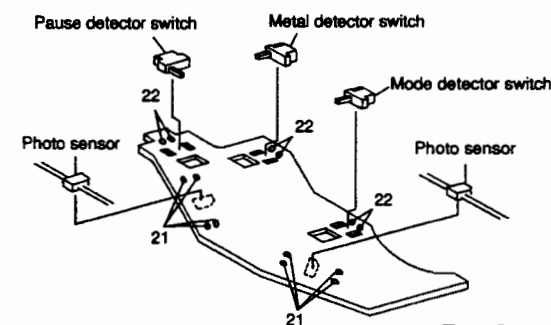

Figure 5
② 口開き、めくれのない様に注意して下さい。
③ プラネットギアの挿入忘れ、不足のないこと。
- (1) Remove eight solders 21 as shown in Figure 5.
- (2) Remove the photo sensor from the photo P.C.Board as shown in Figure 5.
- (3) Solder the legs so that the photo sensor is set as indicated by [] in Figure 5.
② Take care that the solder is not loose, that there is no shortcircuit and that the coating is not damage.
- (1) 8ヶ所の半田21を外し、フォトセンサーをフォト基板より外します。(図5参照)
- (2) 良品のフォトセンサーを図中の[]と同じ方向になる様に半田付けします。(図5参照)
- (1) Remove six solders 22 with which the switch is fixed as shown in Figure 5.
② Take care that the switch guide is properly fixed and straight.
- (1) スイッチを止めている6ヶ所の半田22をそれぞれ外します。(図5参照)